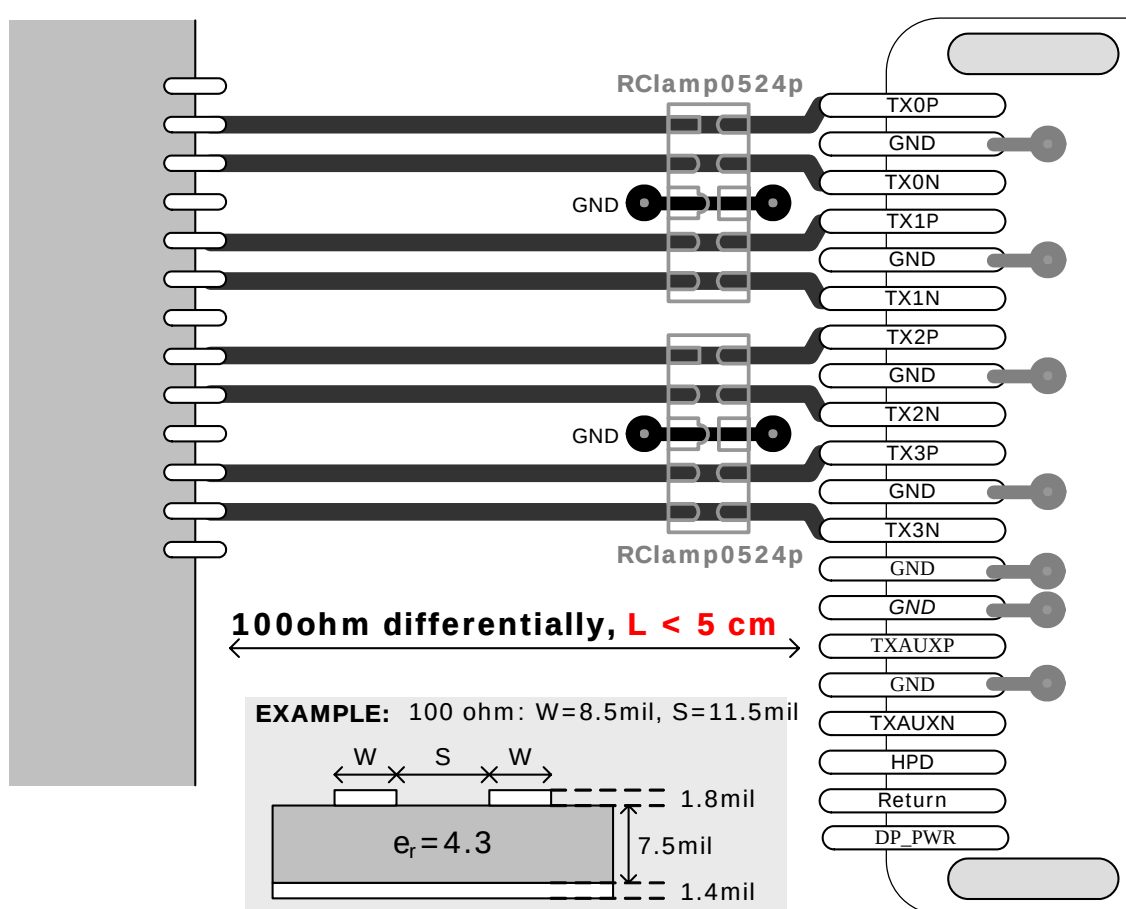

Figure 18. Layout example for high-speed DisplayPort differential signals
- D. The IT6505 should be placed as close to the DisplayPort connector as possible. As a rule of thumb, the lengths of the DisplayPort differential traces (from the DisplayPort output pins of the IT6505 to the DisplayPort connector) **should be smaller than 5 cm (refer to Figure 18)**, especially for applications that support DisplayPort data rates at 2.7 Gbps. This is because at such high transmission rates, the source-side reflections would seriously impact the output data eyes. Since PCB traces, even when carefully designed, suffer from large impedance variations, it's a must that the reflection route be kept as short as possible.